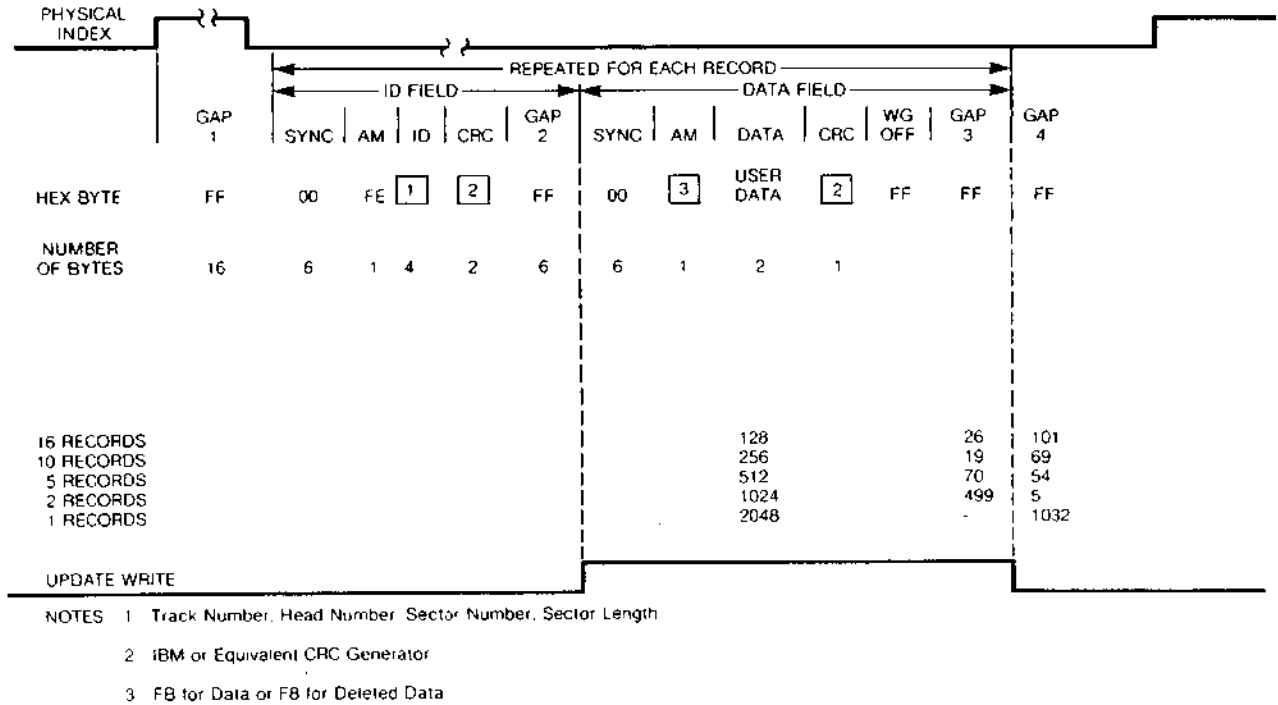
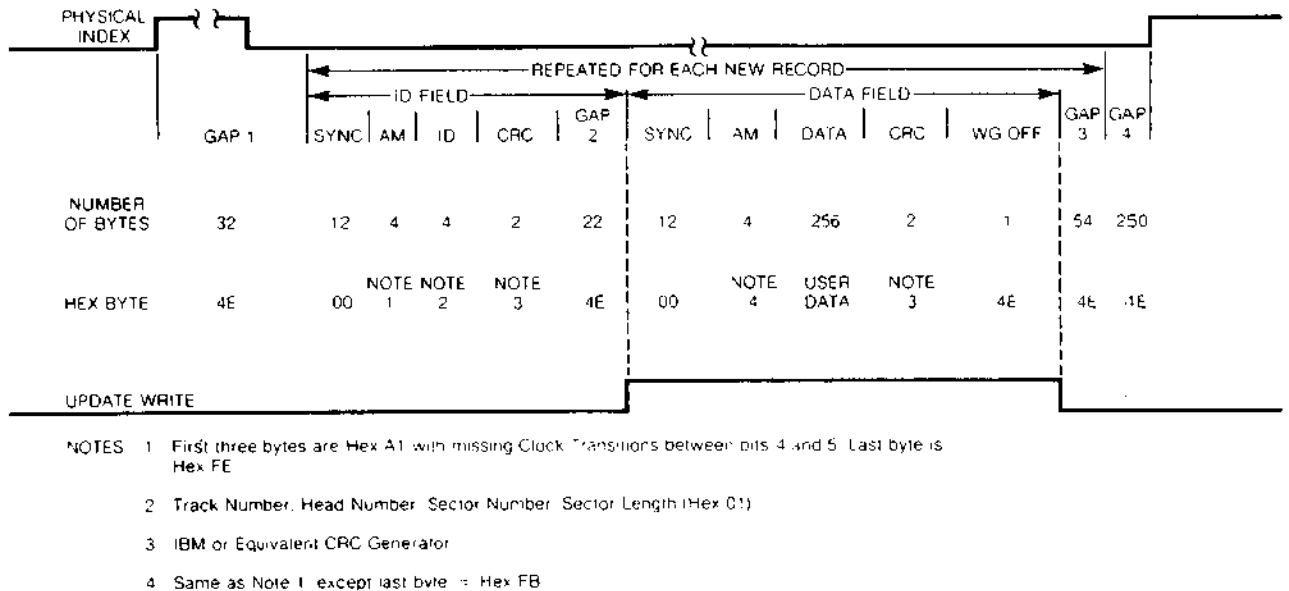

FIGURE 4. RECOMMENDED SOFT SECTOR SINGLE DENSITY (FM) (EVEN BOUNDARIES)
FIGURE 5. MFM RECOMMENDED FORMAT - 256 BYTES/16 RECORDS PER TRACK (IBM TYPE)
In this format, the using system may record one long record or several smaller records. Each track is started by physical index pulse and then each record is preceded by a unique recorded identifier. This type of recording is called soft sectoring. Figure 4 illustrates the recommended single density (FM) formats. Figure 5 shows the recommended double density (MFM) format.